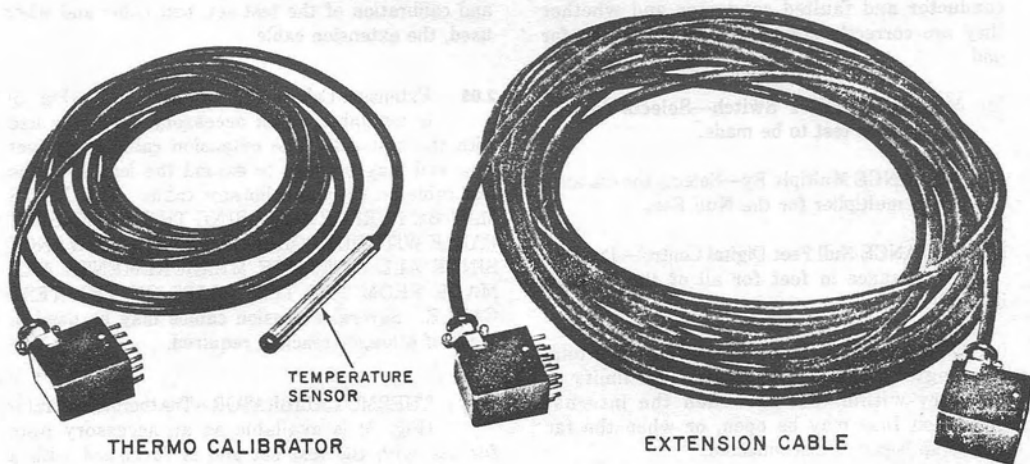

Fig. 5—Extension Cord and Thermo Calibrator
**2.05 Extension Cable**—This extension cable (Fig. 5) is available as an accessory cable for use with the test set. The extension cable is 33 feet long and may be used to extend the length of the test cable or Thermo calibrator cable. ALL TESTS MAY BE PERFORMED USING THE EXTENSION CABLE WITHOUT CORRECTION OR ALLOWANCE SINCE ALL DISTANCE MEASUREMENTS ARE MADE FROM THE TEST CLIPS ON THE TEST CABLE. Several extension cables may be used in series if a longer reach is required.
**2.06 THERMO-CALIBRATOR**—The thermo calibrator (Fig. 5) is available as an accessory item for use with the test set and is furnished with a 15-foot cable. The thermo-calibrator provides a means of determining the precise temperature at the location of the calibrator tip.